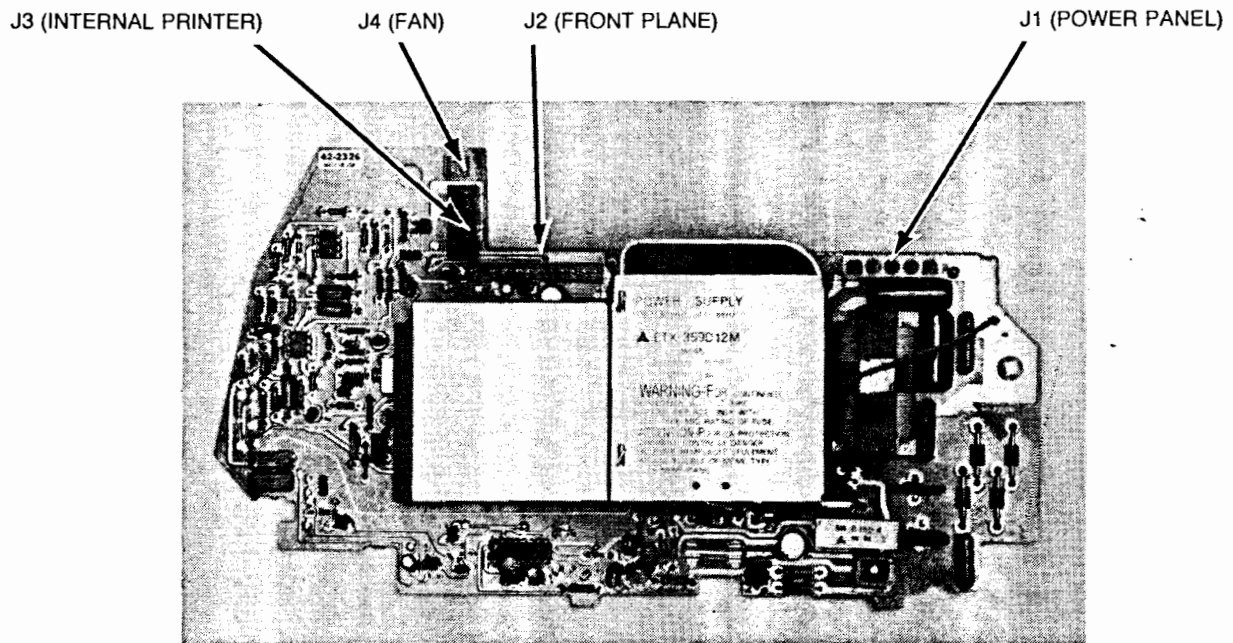

Figure 8-16. HP 150 Power Supply PCA
2. Disconnect the AC power cable, front plane cable and printer cable from their respective connectors (J1, J2 and J3) on the Power Supply PCA (see figure 8-16).
3. Reconnect the AC power cable, front plane cable and printer cable to their respective connectors (J1, J2 and J3) on the Power Supply PCA (see figure 8-16).